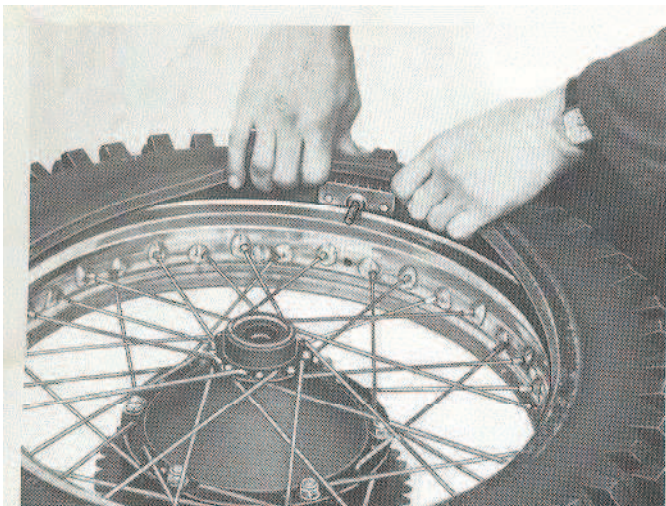

Fig. 56.1
3. Insert the tire retainer and screw the nut on a few turns. See fig. 56.1.